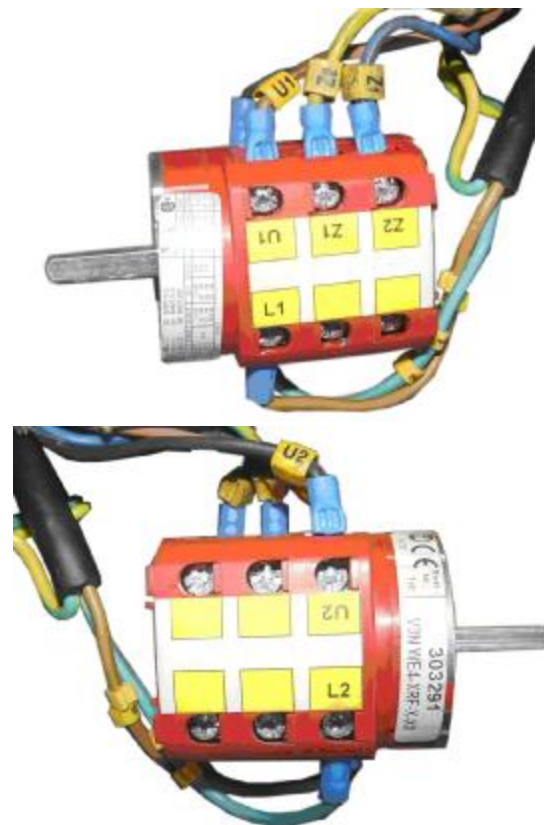

Fig.35
- I Connecting the power line to the switch (fig35)